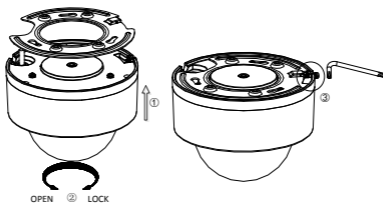

Figure 2-44 Fix the Camera
- Fix the screws on the side with a screwdriver, as shown in Figure 2-44.